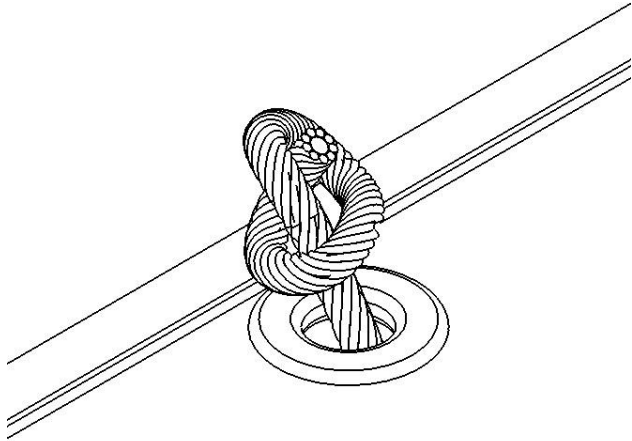

Figure 3.1
Measure the pull bar and verify that it is 12" longer than the width of the tarp. If it is too long cut it to size. On one end of the rear pull bar (1), slide on the 6" plastic handle (2). At the same end, line up the mounting hole on the tarp guide (3) with the slot on the pull bar and secure it with an M10x1.5x25mm hex bolt (4). (Figure 3.1)